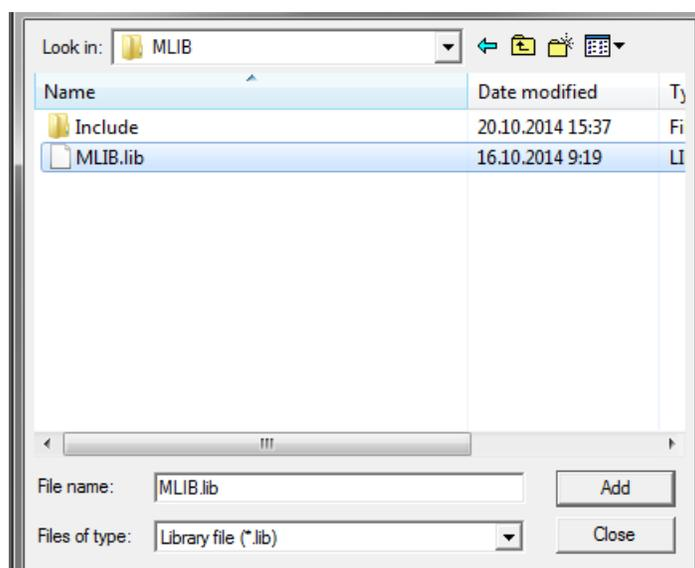

Figure 1-34. Adding .lib files dialog
- Navigate to the parent folder C:\NXP\RTCESL\CM0_RTCESL_4.5_KEIL\MLIB, and select the *mlib.lib* file. If the file does not appear, set the Files of type filter to Library file. Click Add. See Figure 1-34.